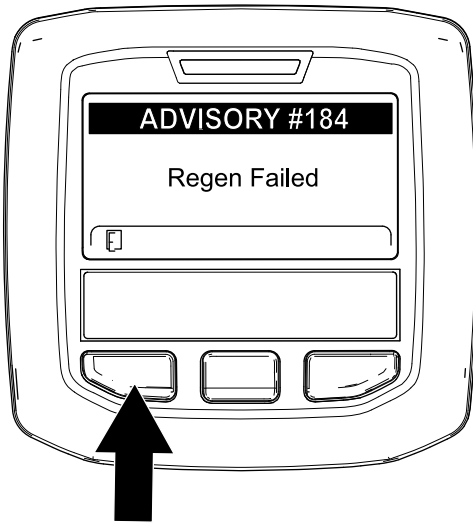

Figure 59
**Note:** If the regeneration fails to complete, the InfoCenter displays Advisory #184 (Figure 59). Press the left button to exit to the home screen.